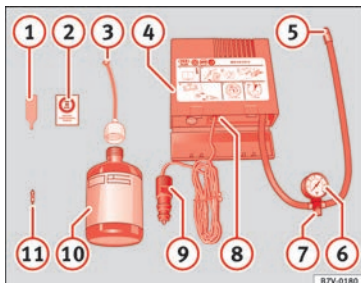

Fig. 188 Standard representation: Contents of the tyre mobility system.
» **Fig. 188:**
Screw the inflator tube » **Fig. 188** ⑤ again and check the pressure on the gauge ⑥.